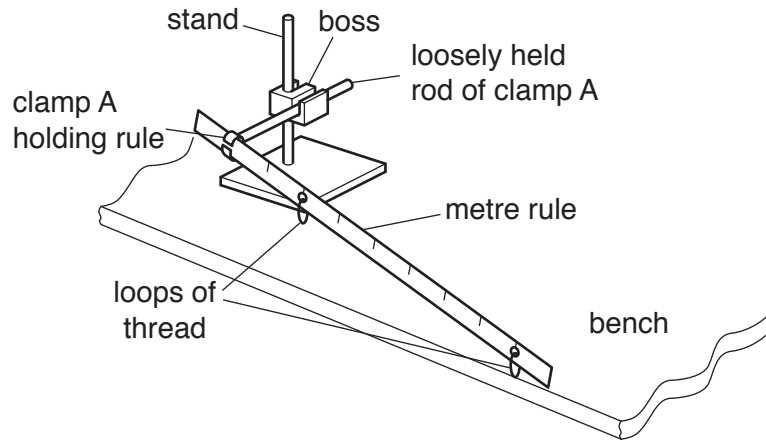

Fig. 4.1
- The rod of clamp A should be placed loosely in the boss as shown in Fig. 4.1.